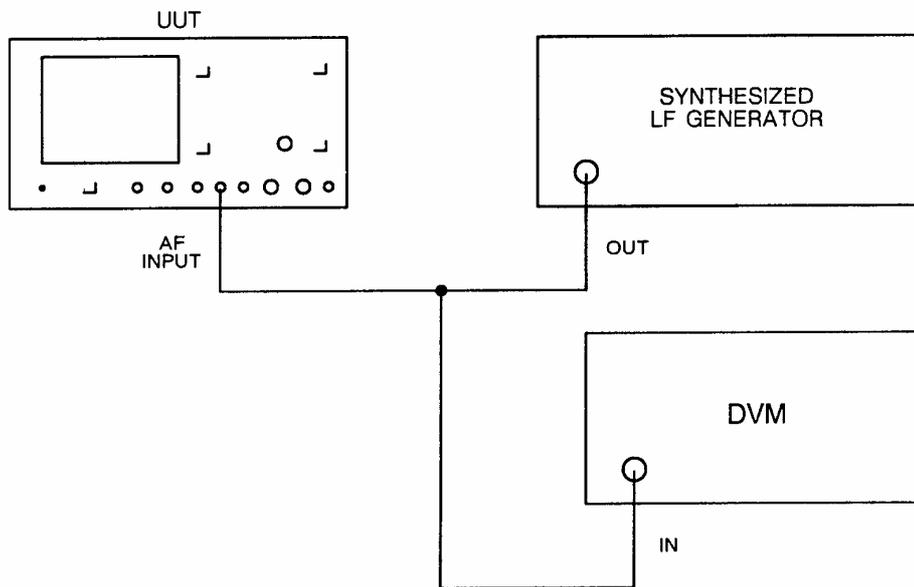

Fig. 5-1-8 Test equipment connections for voltmeter frequency response performance checks
- (1) Connect the equipment as shown in Fig. 5-1-8.